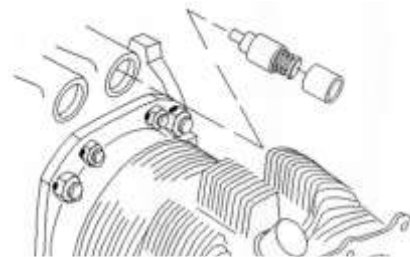

Figure 30
- (1) For each of the two shroud tubes, install the plunger assembly and hydraulic socket in the tappet body in the crankcase (Figure 30).
- (2) Apply engine oil mixture (15% pre-lubricant (STP or equivalent) and 85% SAE No. 50 mineral base aviation grade lubricating oil) to all four of the shroud tube seals, two for each shroud tube.